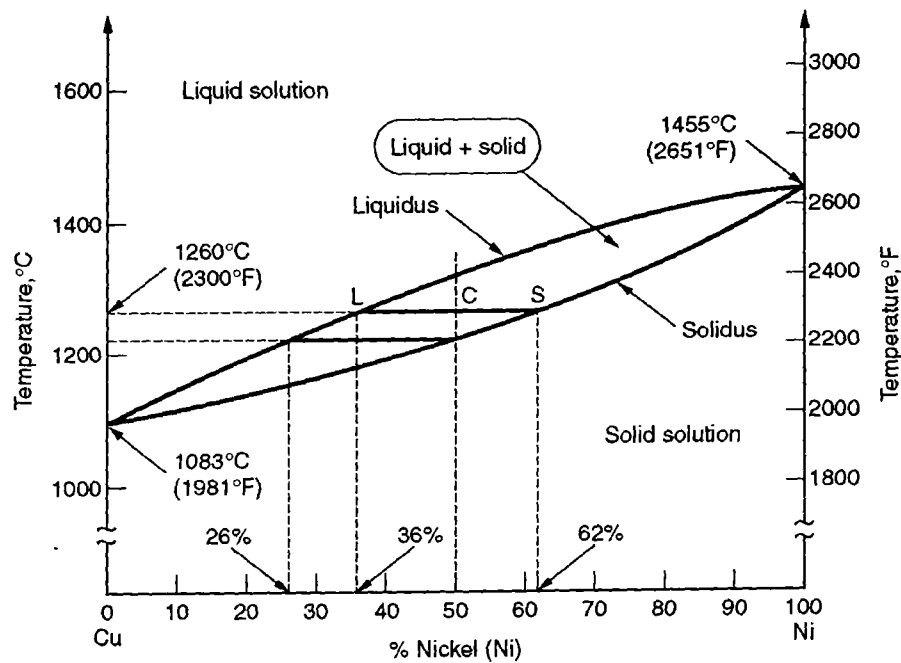

Figure 2(b)
- (b) **Figure 2(b)** shows a phase diagram for the copper-nickel alloy (Cu-Ni) system. Determine the compositions of (i) liquid and (ii) solid phases in the Cu-Ni system at an aggregate composition of 50% nickel and a temperature of 1316°C (2400°F).